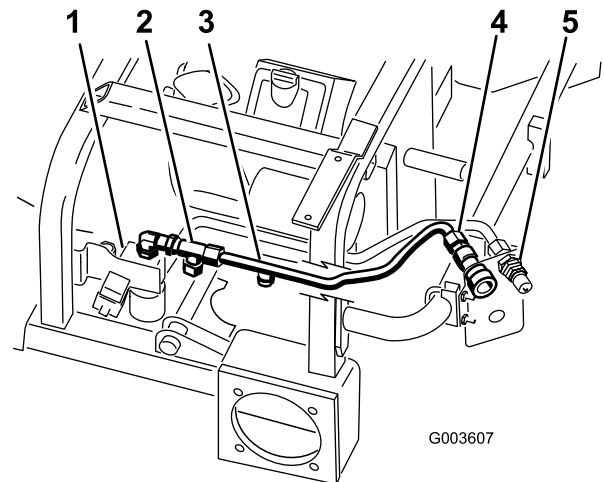

Figure 16
- Position hydraulic line number 2 into the machine as shown in Figure 16.
- Install hydraulic line number 2 to the tee fitting assembled to the 90-degree elbow and the top of the valve (Figure 16).
- Install hydraulic line number 2 to the upper female coupler (Figure 16).